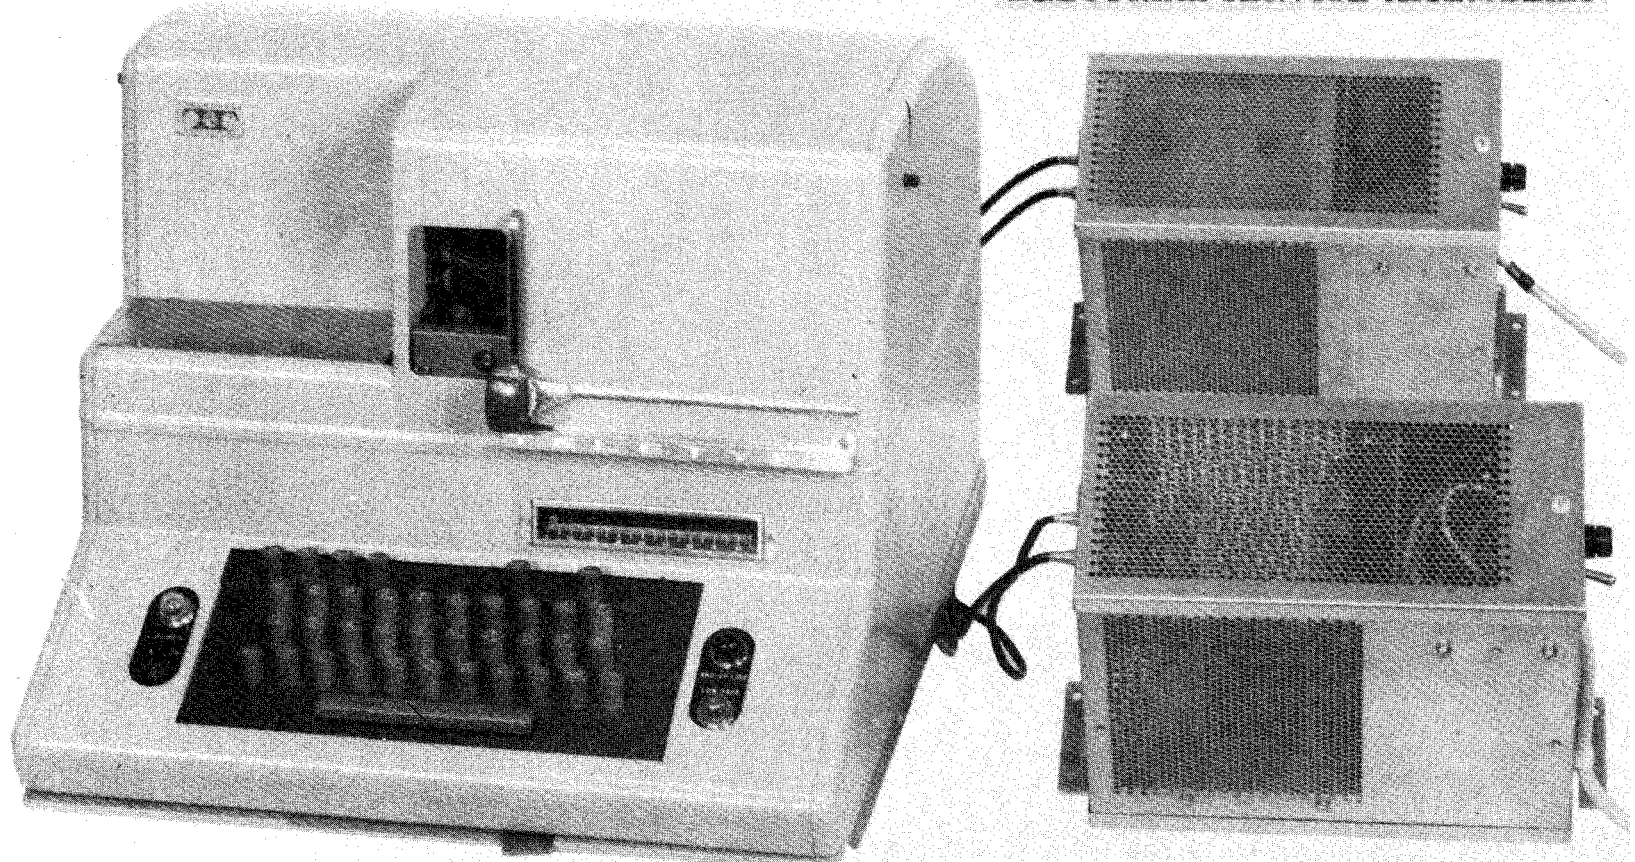

Figure 8-4. Table Model Keyboard Send-Receive Typing Reperforator (KTR) Set
- (1) Refer to figure 8-4.
- (2) Mount the ESAs in space available anywhere near the set within the limit of the signal cables. Mounting brackets for the ESA are supplied, however, the customer must supply the hardware to fasten these brackets to a table, wall, or cabinet.
(3) Route the signal line conduit or cabling to the keyer selector magnet driver of the ESA. Route the signal line to the opposite side of the fuse and attach by means of a conduit fitting. The ESA container has two 7/8-inch diameter knockouts for 1/2-inch conduit fittings.
(4) Route the synchronous pulse control conduit or cable to the ESA opposite the side of the fuse and attach by means of conduit fittings.
(5) Route the power line conduit or cable to both ESA containers. Connect the power line to the side on which the fuse and power switch are located. Attach by means of a conduit fitting.
(6) Route the clutch magnet driver output cable and signal cables through the notch in the rear of the cover. Route the cables through the nylon clamp on the base and connect to the appropriate terminal block and connector.